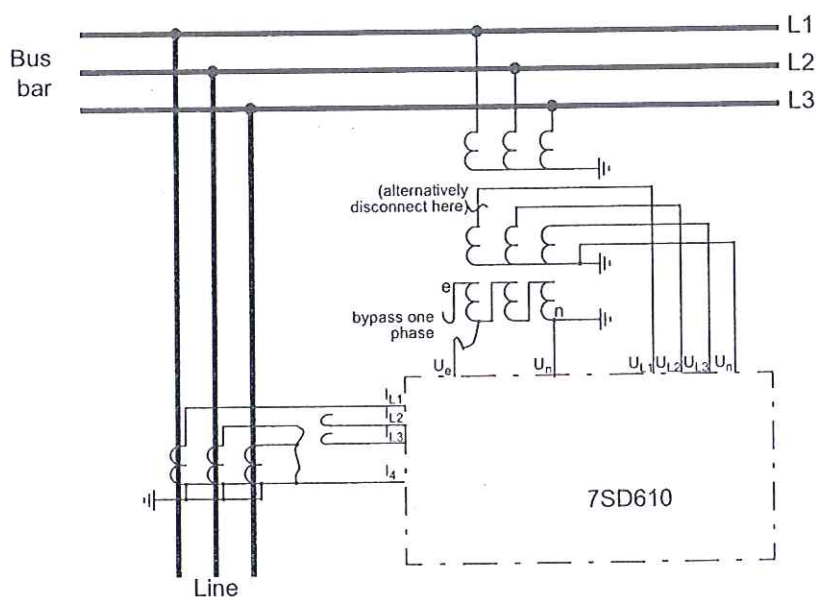
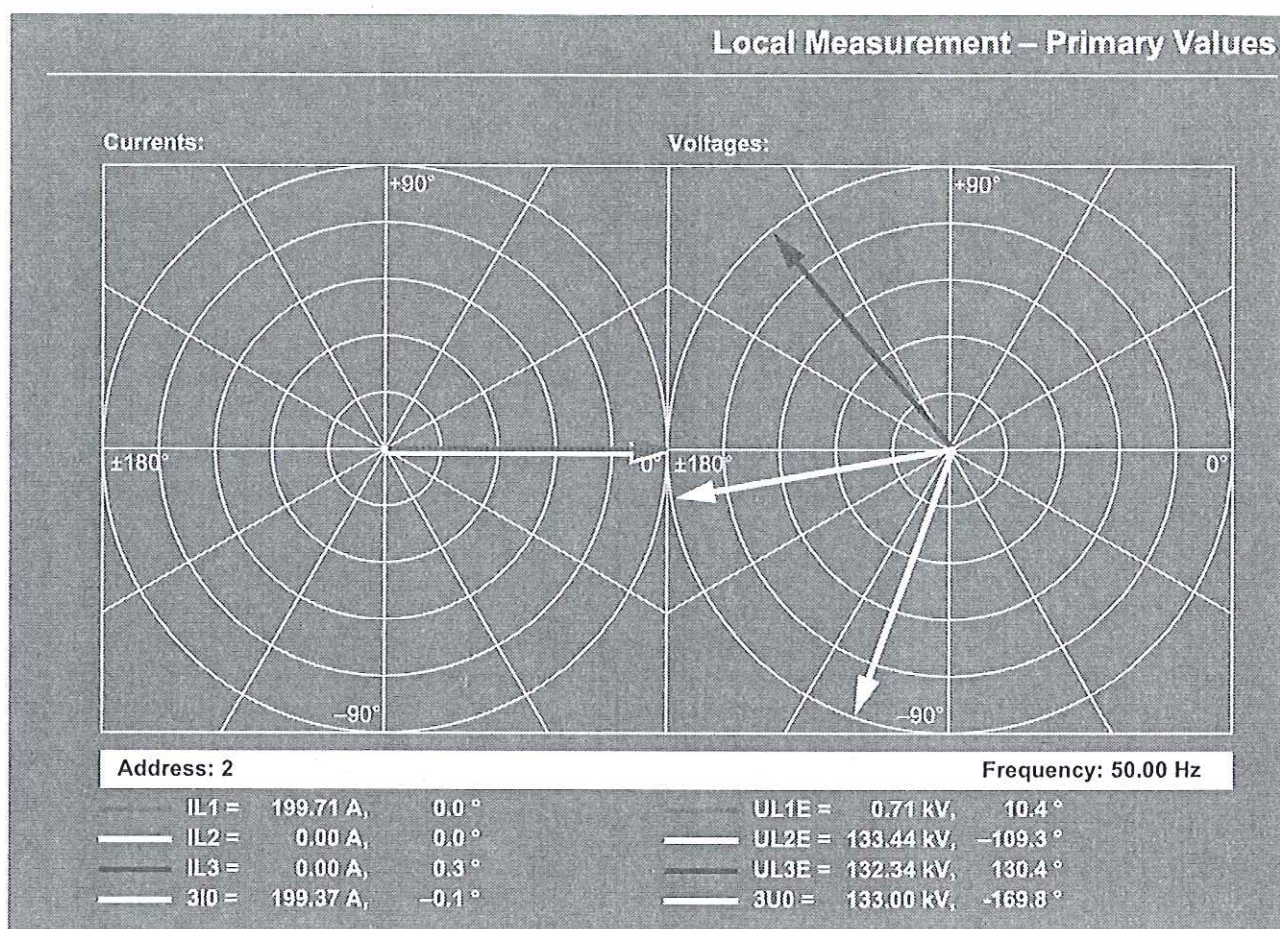

Figure 3-23 Polarity testing for  $I_4$ , example with current transformers configured in a Holmgreen connection
Figure 3-24 Local measured values — example for single-phase, asymmetrical test
- ☐ To generate a displacement voltage, the e-n winding of one phase in the voltage transformer set (e.g. L1) is bypassed (refer to Figure 3-23). If no connection on the e-n windings of the voltage transformer is available, the corresponding phase is open circuited on the secondary side. Via the current path only the current from the current transformer in the phase from which the voltage in the voltage path is missing, is connected; the other CTs are short-circuited. If the line carries load in the first quadrant, the protection is in principle subjected to the same conditions that exist during an earth fault in the direction of the line.
- ☐ Figure 3-24 illustrates an example corresponding to the circuit in Figure 3-23, when the current flows in direction of the object to be protected. The currents  $I_{L2}$  and  $I_{L3}$  are almost zero, an earth current  $3I_0$  of the same value as  $I_{L1}$  appears. Accordingly, the voltage  $U_{L1E}$  is missing and a zero sequence voltage  $3U_0$  appears.